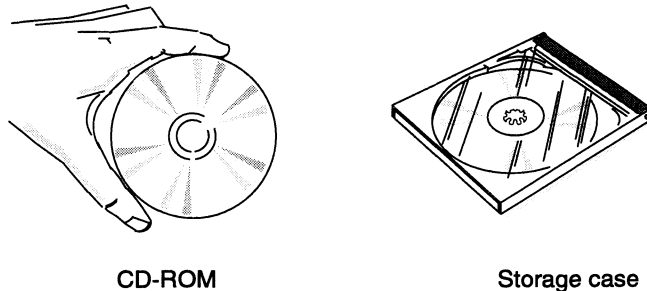

Figure 8 CD-ROM and its storage case
Your CD-ROM drive reads data from a removable compact disk (CD-ROM) that you load into the CD-ROM drive (Figure 8). Although the CD-ROM disk is durable, you can scratch and damage it. Scratches make it difficult and often impossible for the drive to read the disk. Therefore, how you store and handle your disks can affect the reliability, performance, and life of your disks and CD-ROM drive. Please take a moment to read this section before you begin using your CD-ROM drive. Refer to this section from time to time to make sure that you or those responsible are following these recommendations.
- Always store the CD-ROM disk in its storage case (Figure 8) when it is not loaded in the drive. When storing CD-ROMs, make sure the storage area is clean, dry, and away from direct sunlight, extreme humidity and temperatures. Maintain the environment of your compact disk storage area as follows: